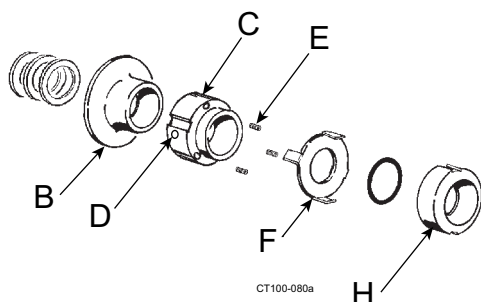

Figure 31 - Type 1 Seal Assembly
4. Slide the tabbed washer (Figure 31, item F) over the impeller shaft and engage the tabs of the washer into notches on the outside of the rotary seal (Figure 31, items F and H).
5. Install the three seal springs into the holes in the spring retainer (Figure 31, items C and E). Hold the springs in place with RTV silicone sealant.
6. Slide the spring retainer over the impeller shaft until the slots in the spring retainer engage the drive tabs on the washer and the springs rest against the washer (Figure 31).
8. Lock the spring retainer in place by tightening the setscrews (Figure 31, item D).
9. Install the deflector onto the impeller shaft (Figure 31, item B).